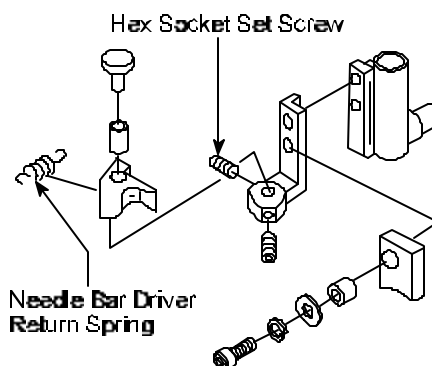

Figure 10
27. **Using** a 2 mm Allen Wrench, **tighten** hex socket set screw to secure Needle Bar Driver on Needle Bar Driver Fixing Base. *See Figure 10.*
28. **Attach** Needle Bar Driver Return Spring. *See Figure 10.*